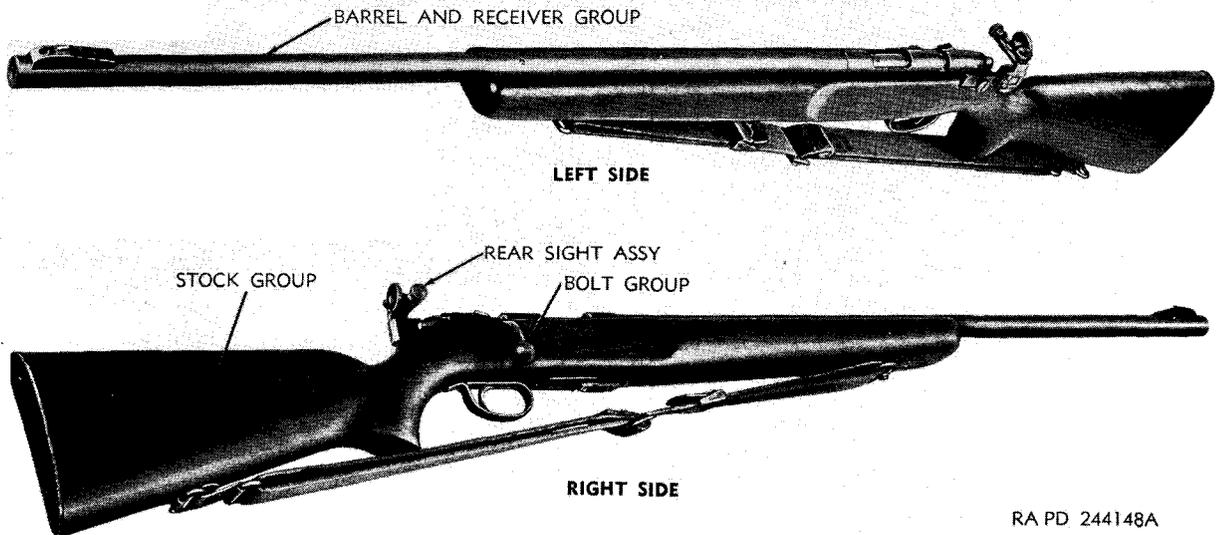

Figure 1. Cal. .22 Remington rifle M513T—left and right side views.
is issued. It contains information on the operation and organizational maintenance of the cal. .22 Remington rifle M513T (fig. 1), the
- (4) The bolt group of the Remington rifle M513T is not designated as an assembly in the supply manual and is therefore called a group in this technical manual. The bolt group of the Stevens rifle M416-2T is termed "bolt assembly," that of the Winchester rifle M75T is referred to as "breech bolt assembly."
b. *Remington Rifle M513T* (fig. 4). The Remington rifle M513T (figs. 1 and 34) consists basically of a bolt group, magazine assembly, a rear sight assembly, a barrel and receiver group, and a stock group.